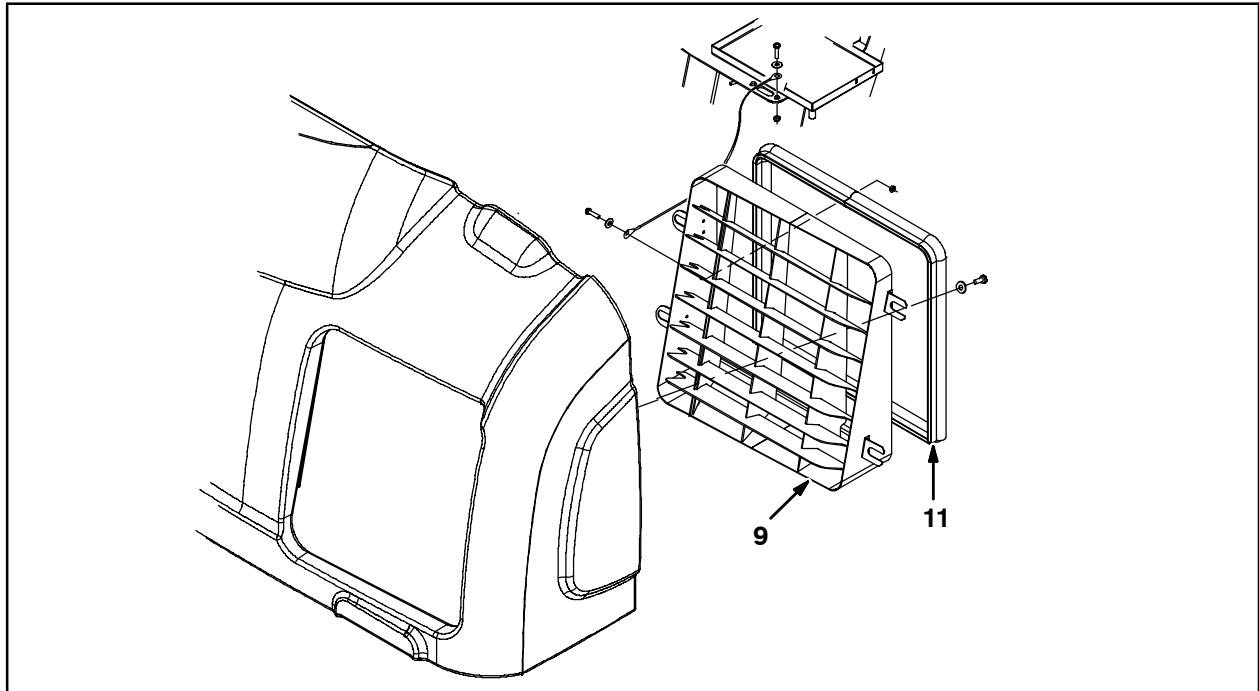

FIG. 7
17. Remove the grill from the front shroud. Save all hardware used to secure the old grill onto the shroud. Discard the grill. Refer to Fig. 7.
18. Use the saved hardware to install the new grill (9) onto the front shroud. Refer to Fig. 7.
19. Apply Loctite 242 to the seals (11) and install the seals onto the inner portion of the grill (9). Refer to Fig. 7.